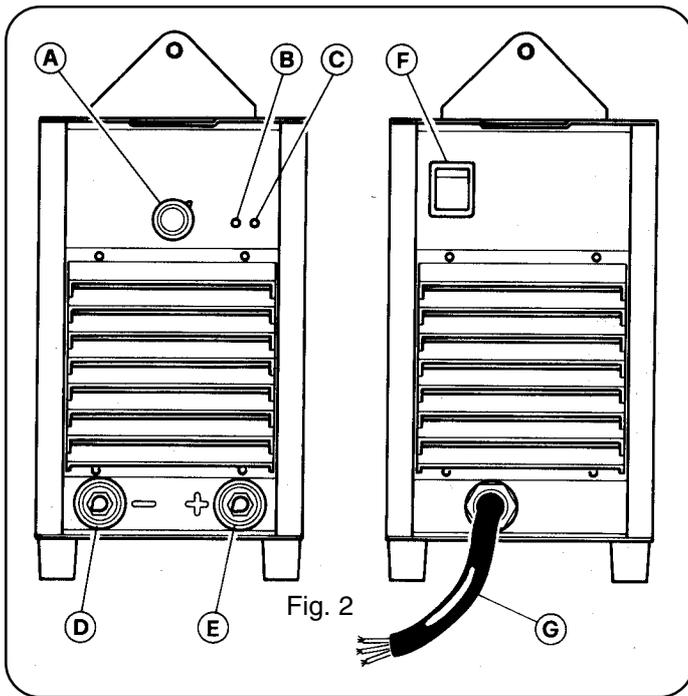

Fig. 2
The intervention of the thermostat is indicated by the led turning on (B) fig.2.
The intervention of this protection is indicated by the led lighting up (C) fig.2.
- Make sure that switch (F) fig. 2 is in 0 position or not inserted in supply socket then connect welding cables in accordance with polarity demanded by the electrode manufacturer which you will be using.
- Connect supply cable (G) fig.2: When mounting a plug, make sure that its capacity is adequate and that the yellow-
- Turn machine on with switch (8) fig.2.
- Connect supply cable (G) fig.2: When mounting a plug, make sure that its capacity is adequate and that the yellow-green wire of the mains cable is connected to the earth plug pin.
- Turn machine on with switch (F) fig.2